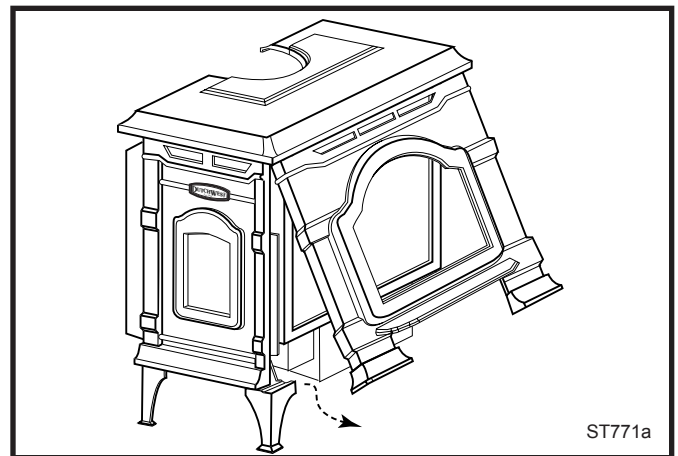

Fig. 58 Remove the stove front.
1. Remove stove front. Lift stove front up and then swing bottom out and away to disengage from the stove body. (Fig. 58, Page 29)
Replace glass only with CFM Corporation approved parts. Refer to Page 32 for Replacement Parts. Refer to Figure 58 and previous instructions for removal of the damaged glass frame.